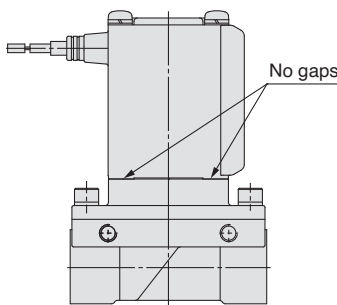

Fig.1
- 3) Push the coil assembly against the body and tighten the screws two or more rounds diagonally (Fig. 2) in the status that there are no gaps between the coil assembly and body (Fig. 1).
- * After tightening the screws, make sure that there are no gaps between the coil and body (Fig. 1).